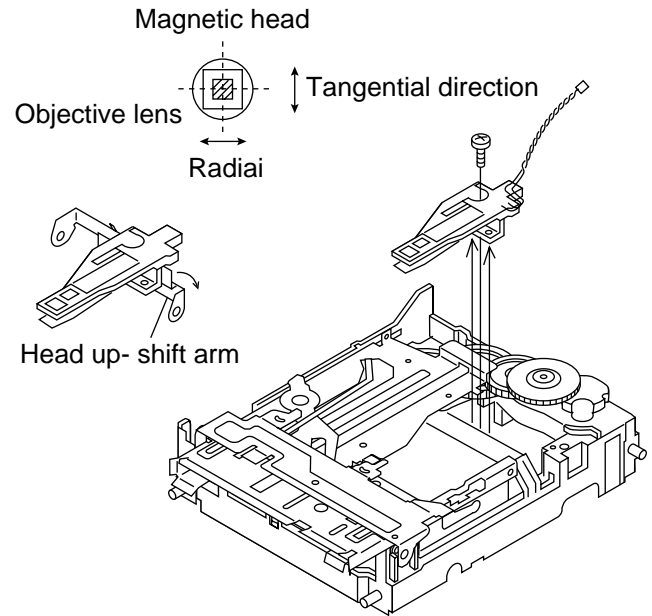

Figure 27-2
4. Check that the magnetic head moves up and down smoothly. (shown in Figure 27-2)